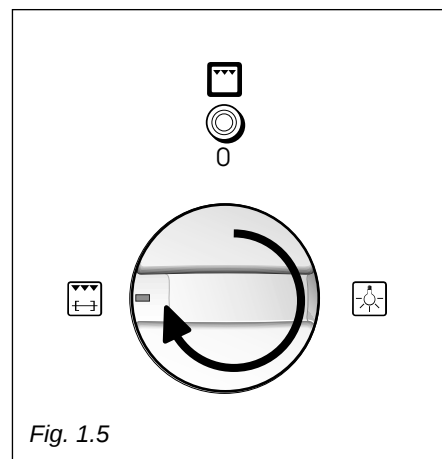

Fig. 1.5
- Switch the grill and the rotisserie on by setting the knob to position  (fig 1.5).